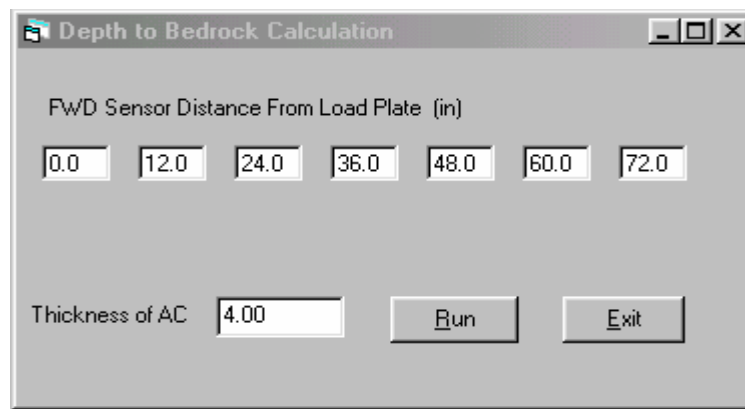

Figure 5. Depth to Bedrock Analysis Input Window.
This is an optional routine used to select the FWD data to be processed. When selected the program automatically displays Figure 5 for the user to perform the depth-to-bedrock (DTB) analysis. The FWD sensor distance from load plate is automatically read from the header information in the FWD test data file. In case the user reads his/her own data format (Figure 4), the sensor distance is assigned by the default value.
If the Asphalt Concrete (AC) thickness is input in the depth to bedrock calculation (Figure 5. Depth to Bedrock Analysis Input Window), the subgrade thickness (DTB) is automatically calculated and displayed. This may be bedrock or a stiff clay layer. The user can overwrite this number, if needed. The maximum possible numeric value of depth to bedrock is 300 inches. (However as will be discussed later the program does provide for a semi-infinite subgrade thickness).